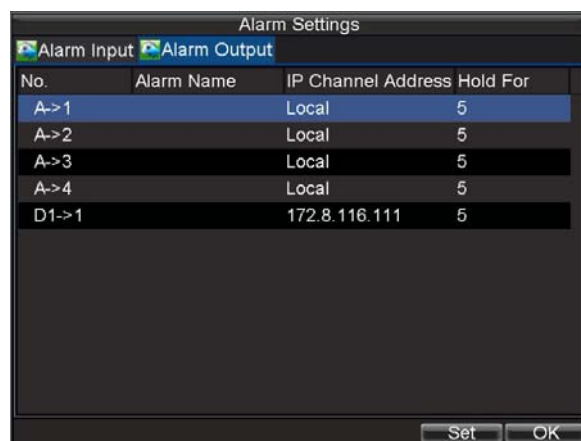

Figure 9. Alarm Output Interface
1. Select the **Alarm Output** tab. This will bring up the Alarm Output interface, shown in Figure 9.